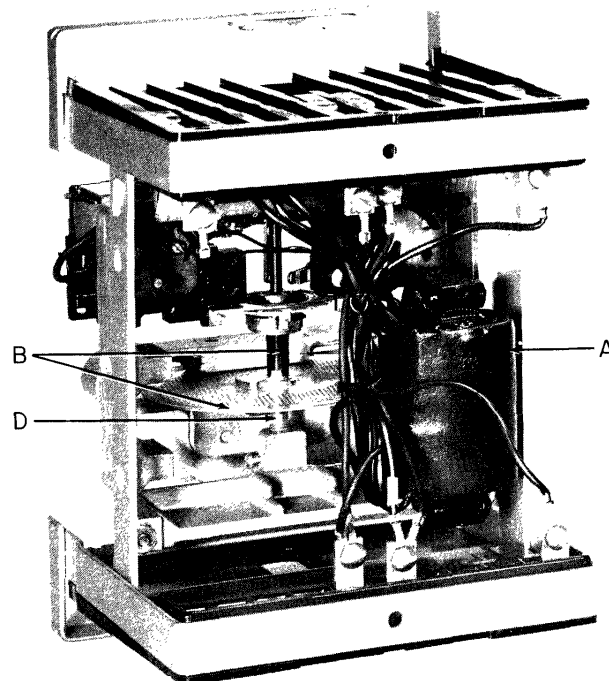

Fig. 3. Typical IAV relay unit, back view
- A. Figure 3 on page 2 indicates that the reference letter for the Operating Coil Assembly is "A".